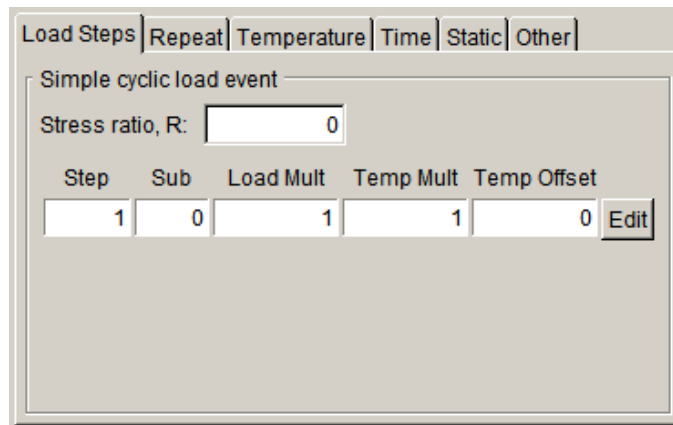

Figure 6.5.19 Simple cyclic load event options.
If the user chooses a Simple Cyclic load type (see Fig 6.5.11), the lower portion of the Load Schedule dialog appears as in Fig 6.5.19. The user can specify a given Stress ratio (R), and then specify the load step (and substep if there is more than one) along with load and temperature multipliers and temperature offset. The stress ratio will be used to compute  $K_{min}$  and thus the  $\Delta K$  values.